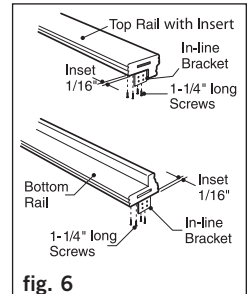

fig. 6
Step 8: Locate in-line brackets on underside of bottom rail. Using an in-line bracket as a template, inset the bracket 1/16" from end and on-center of rail, mark the four hole locations. Pre-drill each marked location with 1/8" drill bit, 1-1/4" deep, drilling into second layer of material, and attach with 1-1/4" screws (Figure 6). Repeat for the other end of rail.
Locate in-line brackets on the bottom of the top rail - placing the bracket on-center of the flat area and 1/16" from end - mark the four holes. Pre-drill each marked location with 11/64" drill bit, 1-1/4" deep, drilling into second layer of material, and attach with 1-1/4" screws (Figure 6). Repeat for the other end of rail. Use the 11/64" drill bit only for connections that are through the aluminum insert. Please note that the screws must be attached through the aluminum insert.